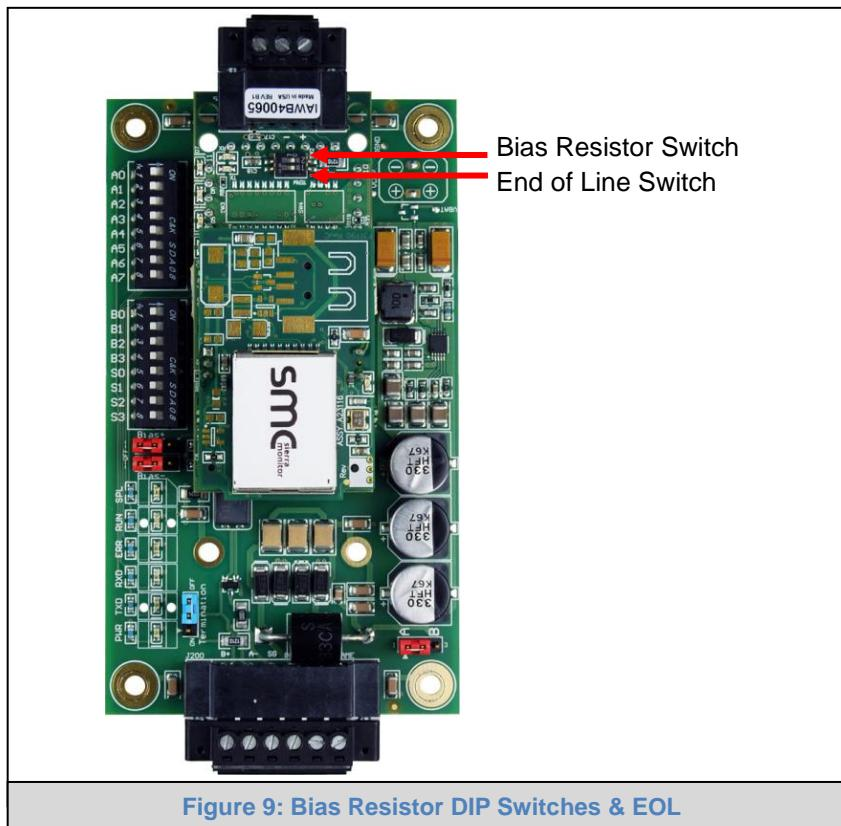

Figure 9: Bias Resistor DIP Switches & EOL
- If more than one RS-485 device is connected to the network, then the field bias resistor switch needs to be enabled to ensure proper communication. **See Figure 9 for the orientation of switch positions referenced below.**
- If the FieldServer is the last device on the trunk, then the end of line (EOL) termination switch needs to be enabled. **See Figure 9 for the orientation of switch positions referenced below.**